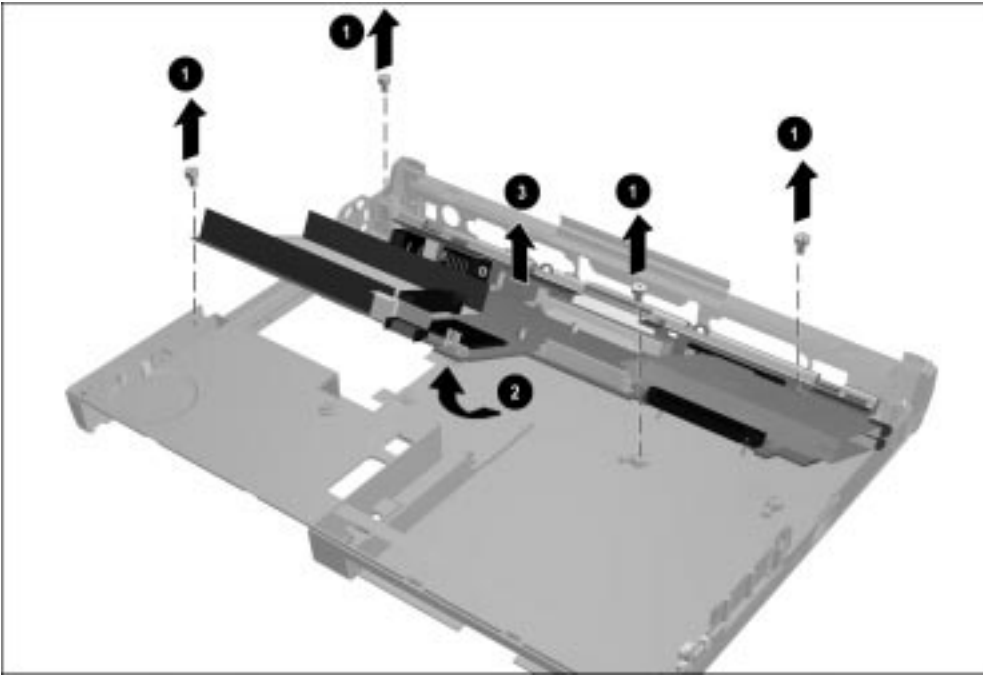

Figure 5-43. Removing the System Board
12. Remove the four screws **1** that secure the system board to the base assembly (Figure 5-43).